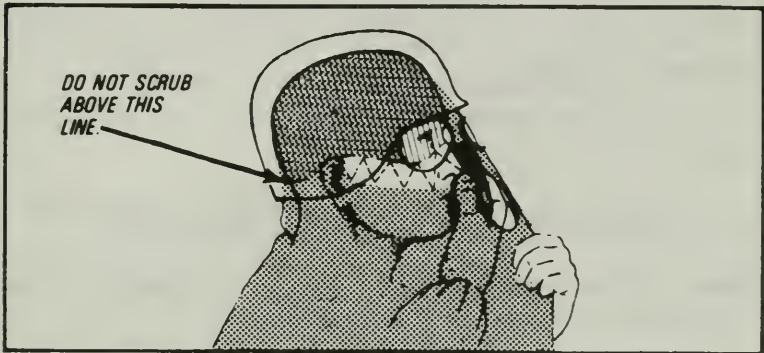

Figure 267. Decontaminating the face.
h. Scrub up and down, from ear to ear (Figure 267).
(1) Start at your ear.
(2) Scrub across your face to the corner of your nose.
- (3) Scrub across your face to your other ear.